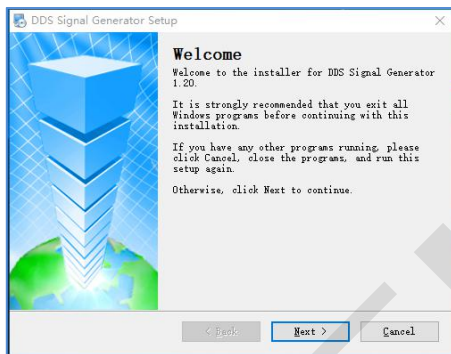

Figure 3-9-5
- Step 3: Click the key **【Main program】** to install the application. Keep clicking the **【NEXT】** until the **【FINISH】** displayed, and then click it to complete the installation. The application installation interfaces are shown as Figure 3-9-5 to Figure 3-9-10.